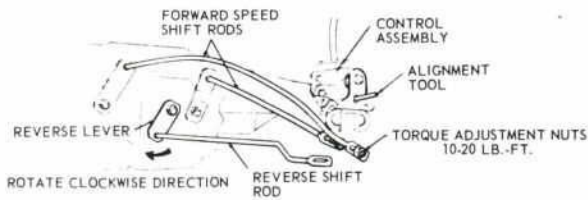

Figure 3—Reverse Lever Detail
4. Rotate the reverse lever of the transmission clockwise to shift the transmission into reverse gear. The reverse lever is the center lever of the three levers as shown in Figure 3.